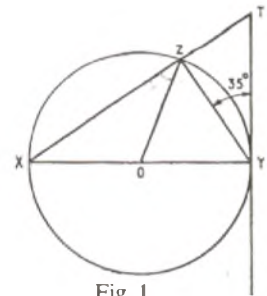

Fig. 1.
Q. 9. (a) In Fig. 1 XY is the diameter of a circle centre O. Z is any point on the circumference and XZ produced meets the tangent at Y in T. If angle TYZ = 35°, calculate the values of angles XZO and OZY.